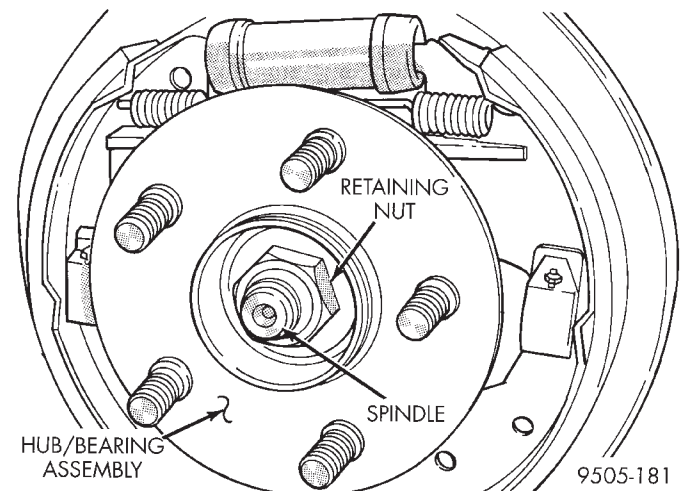

Fig. 12 Hub/Bearing Assembly Retaining Nut
(6) Remove the rear hub/bearing assembly retaining nut (Fig. 12). Then remove the washer and the hub/bearing assembly from the knuckle.